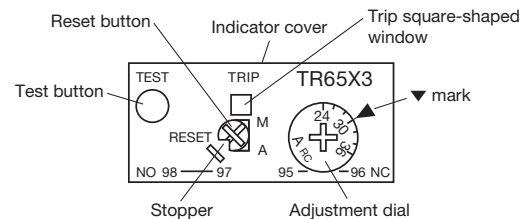

Fig. 3
##### (1) Setting the current [Fig. 3]
##### (2) Operating indicator [Fig. 3]
##### (3) Sequence check [Fig. 3]
##### (4) Reset method [Fig. 3]